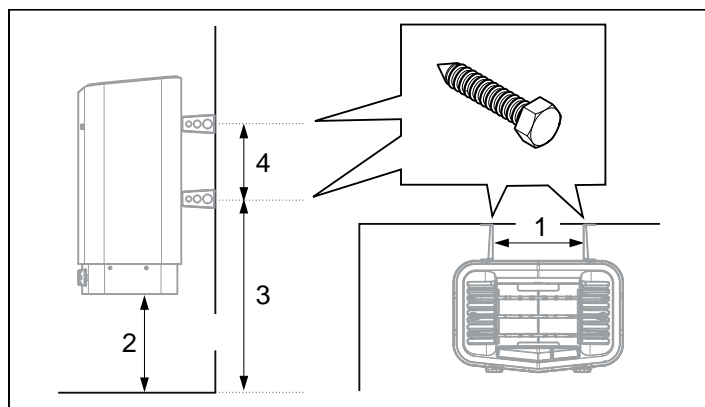

Figure 12: Dimensioning
9. Position the bracket screws according to the specified dimensioning see Fig. 12.